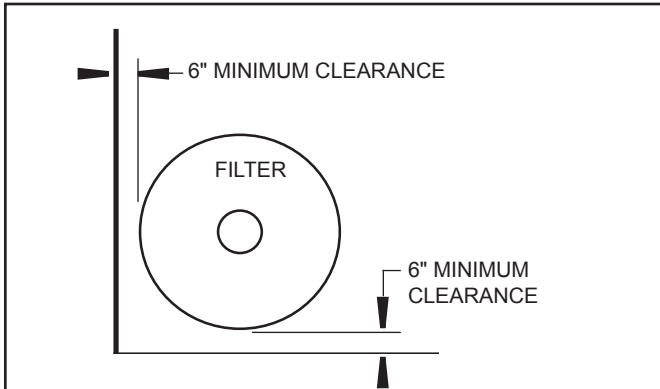

Figure 2. Filter Location
3. Install electrical controls at least five (5) feet from the filter. This will allow enough room to stand away from the filter during start-up.
4. Allow sufficient clearance around the filter to permit a visual inspection of the clamp ring (see Fig. 2).